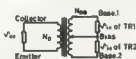

FIG. 11.
4. The input transformer (T1) turns ratio can be calculated from the following formula with reference to Fig. 11:—